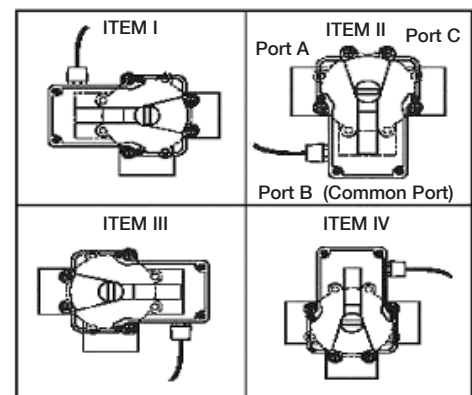

Figure 3. Mounting Positions
5. Rotate the actuator until the actuator posts line up with the four holes so it matches one of the mounting positions shown in Figure 3. See table below for descriptions of mounting options.
Standard Actuator Mounting - The main body of the actuator is over port B as shown in Item II of Figure 3.
The actuator can also be mounted on top of a valve in four different positions as shown in Figure 3. Depending on the plumbing of the valve and mounting position of the actuator, the cams inside the actuator may have to be reset. (See next section.)